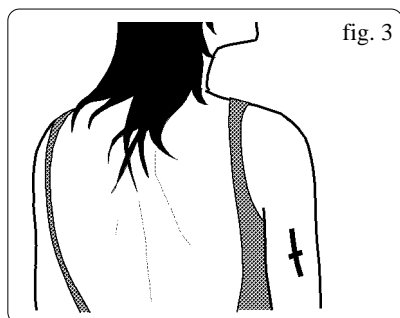

fig. 3
- **Triceps and front thigh for the female sex (see fig. 3)**
Vertical skin layer measured along the mid-tricipital line halfway between the olecranon (elbow) and the coracoid apophysis (shoulder). (fig. 3)